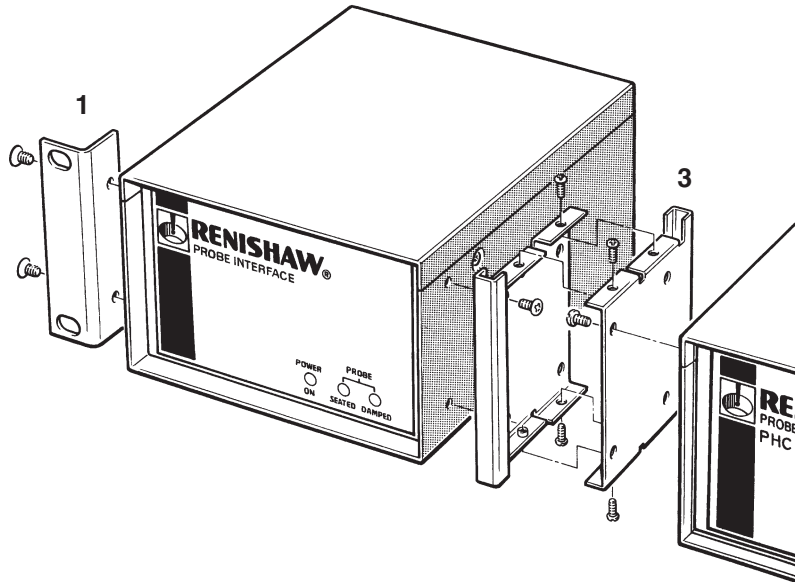

Figure 15 - Fitting brackets to the interface
Remove the blanking plugs from the side panels of the PHC10-2. Fit a rack mounting bracket (1) and an enclosure link bracket kit (3) using the screws provided as shown in figure 15.